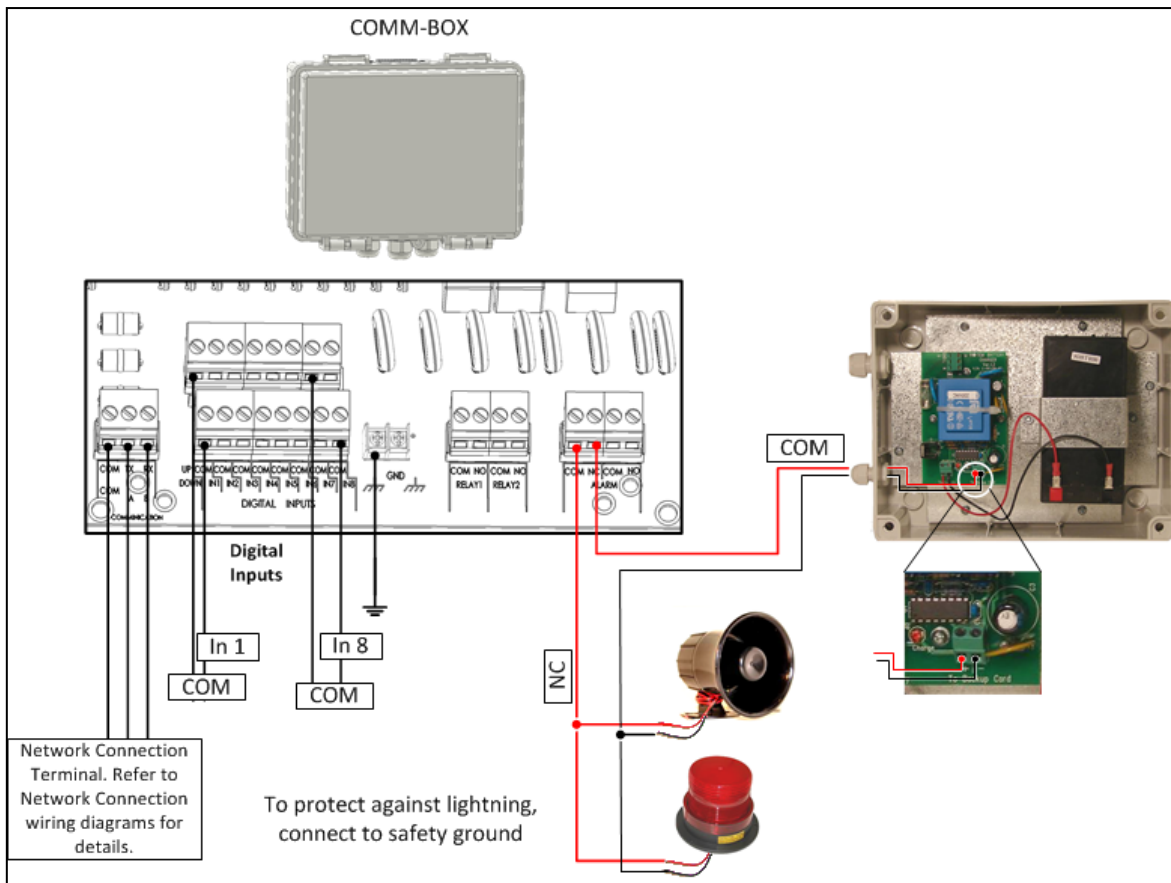

Figure 3: External Communication Box Wiring Diagram with ELS
2. If required, connect the External Connection Box to external devices and an ELS system (Figure 3).